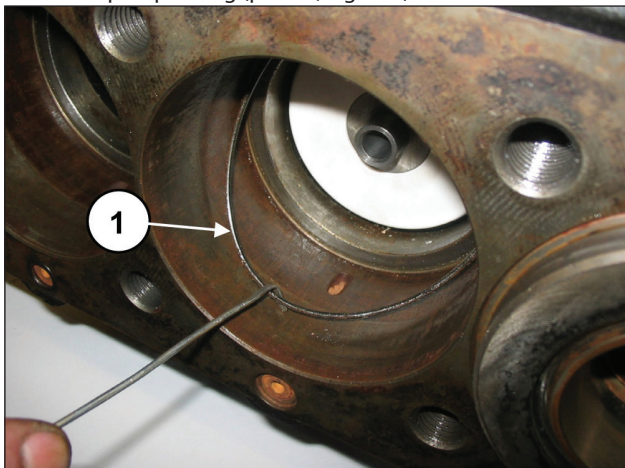

Fig. 160
Remove the seal support bottom O-ring should it remain inside the pump casing (pos. ①, Fig. 160).